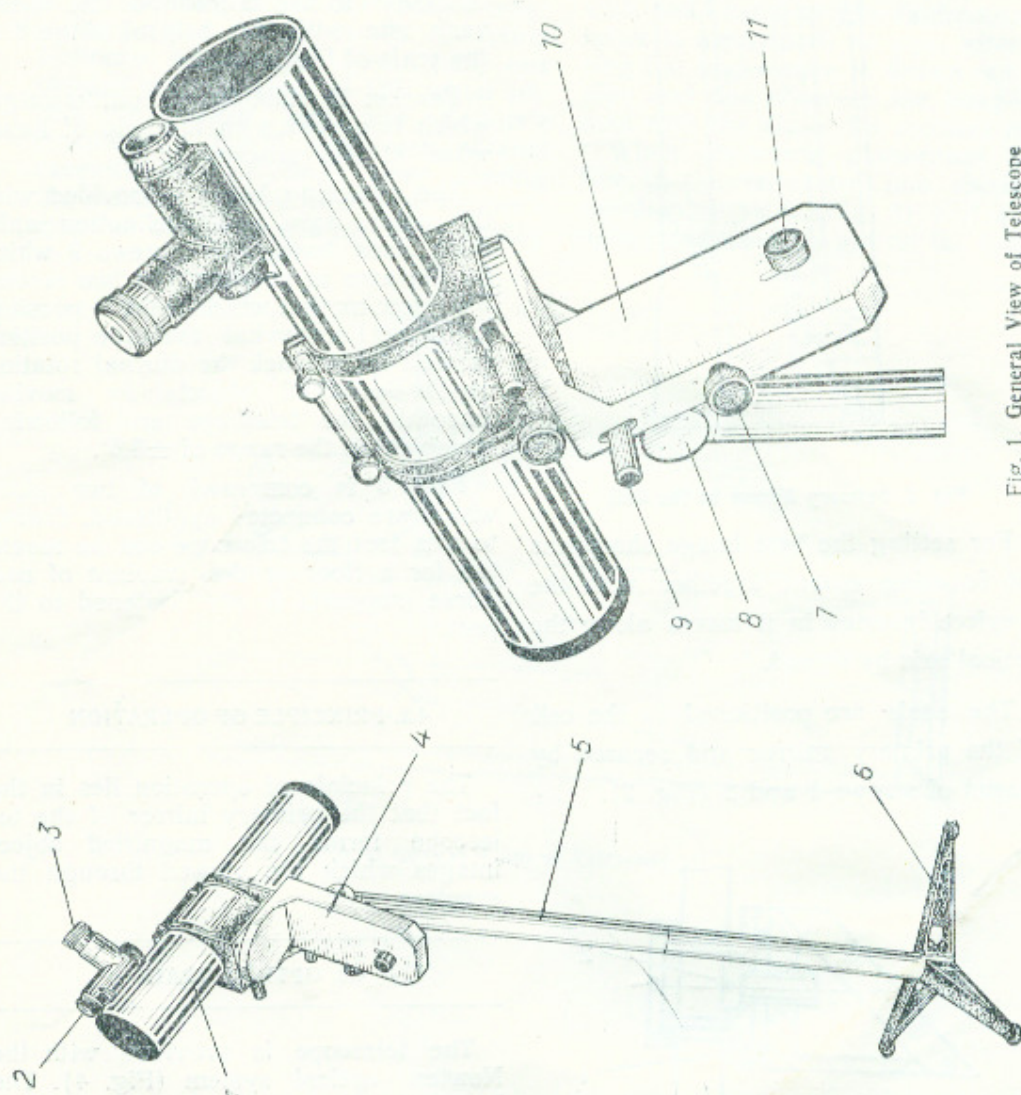
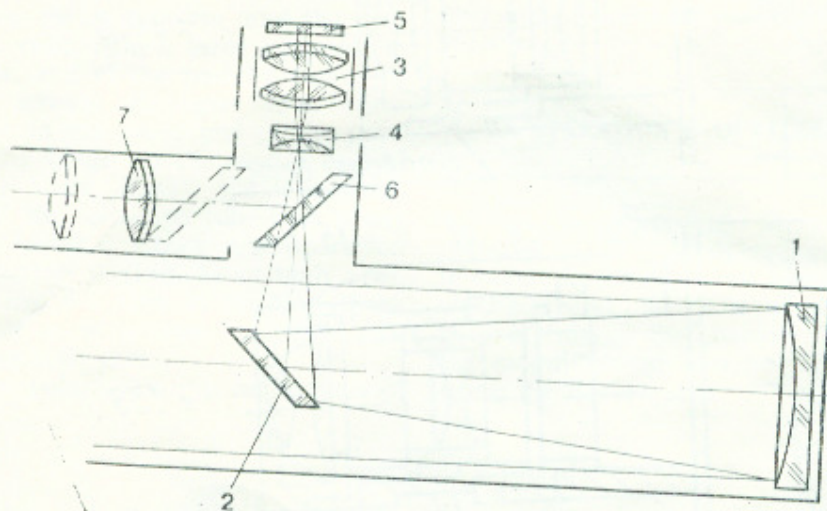
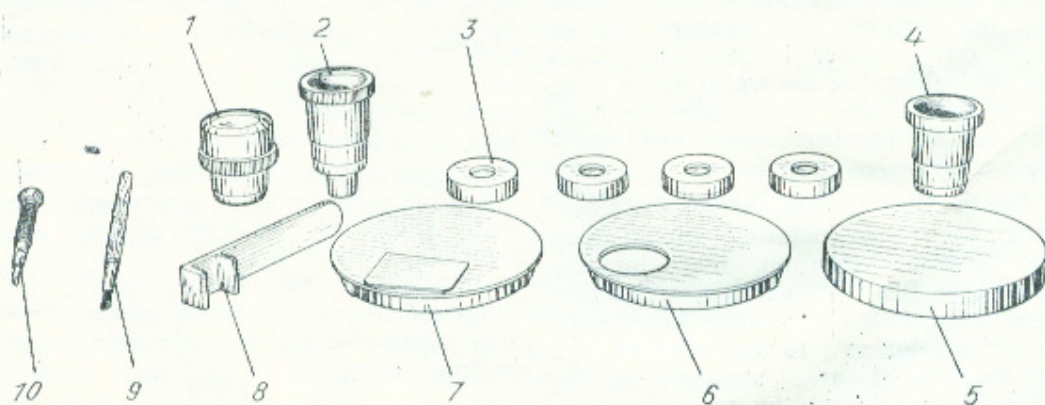

Fig. 1. General View of Telescope
Fig. 4. Optical Train of Telescope
Fig. 6. Tools and Accessories:
**Tube 1** (Fig. 1) is the basic part of the telescope where the following optical pieces are mounted: a primary spherical mirror, plane diagonal mirror, finderscope combined with a focusing mechanism. Eyepieces and Barlow lens are inserted in the focusing mechanism.
The inlet of the tube is to be covered with cap 7 (Fig. 6) after operation.
Finderscope 2 (Fig. 1) operates together with eyepiece 3 and is composed of an objective and diagonal mirror 6 (Fig. 4).
Universal mounting 4 (Fig. 1) can be used as an altazimuth or equatorial mounting. It is possible to set the telescope to the latitude of the observer's site with the help of hinge 8 of the scale of latitudes.
The telescope is provided with the Newton optical system (Fig. 4). The beam of rays enters the tube, falls on primary spherical mirror 1 and, after reflecting from it, forms a cone of rays
When observing phenomena on the Sun in the telescope, one should use cap-diaphragm 6 (Fig. 6) and a black light filter which is put on the eyepiece.
Remove three supports and the post from the case. Attach three supports to the lower end of the post by means of captive screws through three holes available on the lower end of the post. Screw the hinge on the upper end of the post, then install the mounting. Take out the telescope tube and insert it in the bracket. Check the operation of lock screws 9 (Fig. 1) of both axes. After fixing the axes in position check the operation of screws 7 of slow motion along both axes.
the mounting by the scale of latitudes. To perform this unscrew a cap on hinge 8 (Fig. 1) with the use of wrench 8 (Fig. 6), untighten a nut and incline the axis to the latitude of the observer's site and point it to the celestial pole (Polaris). Then tighten the nut again, screw in the cap. When observing earthly objects and searching comets, it is better to set the polar axis vertically. Insert the eyepiece or the eyepiece with the Barlow lens in the focusing mount.